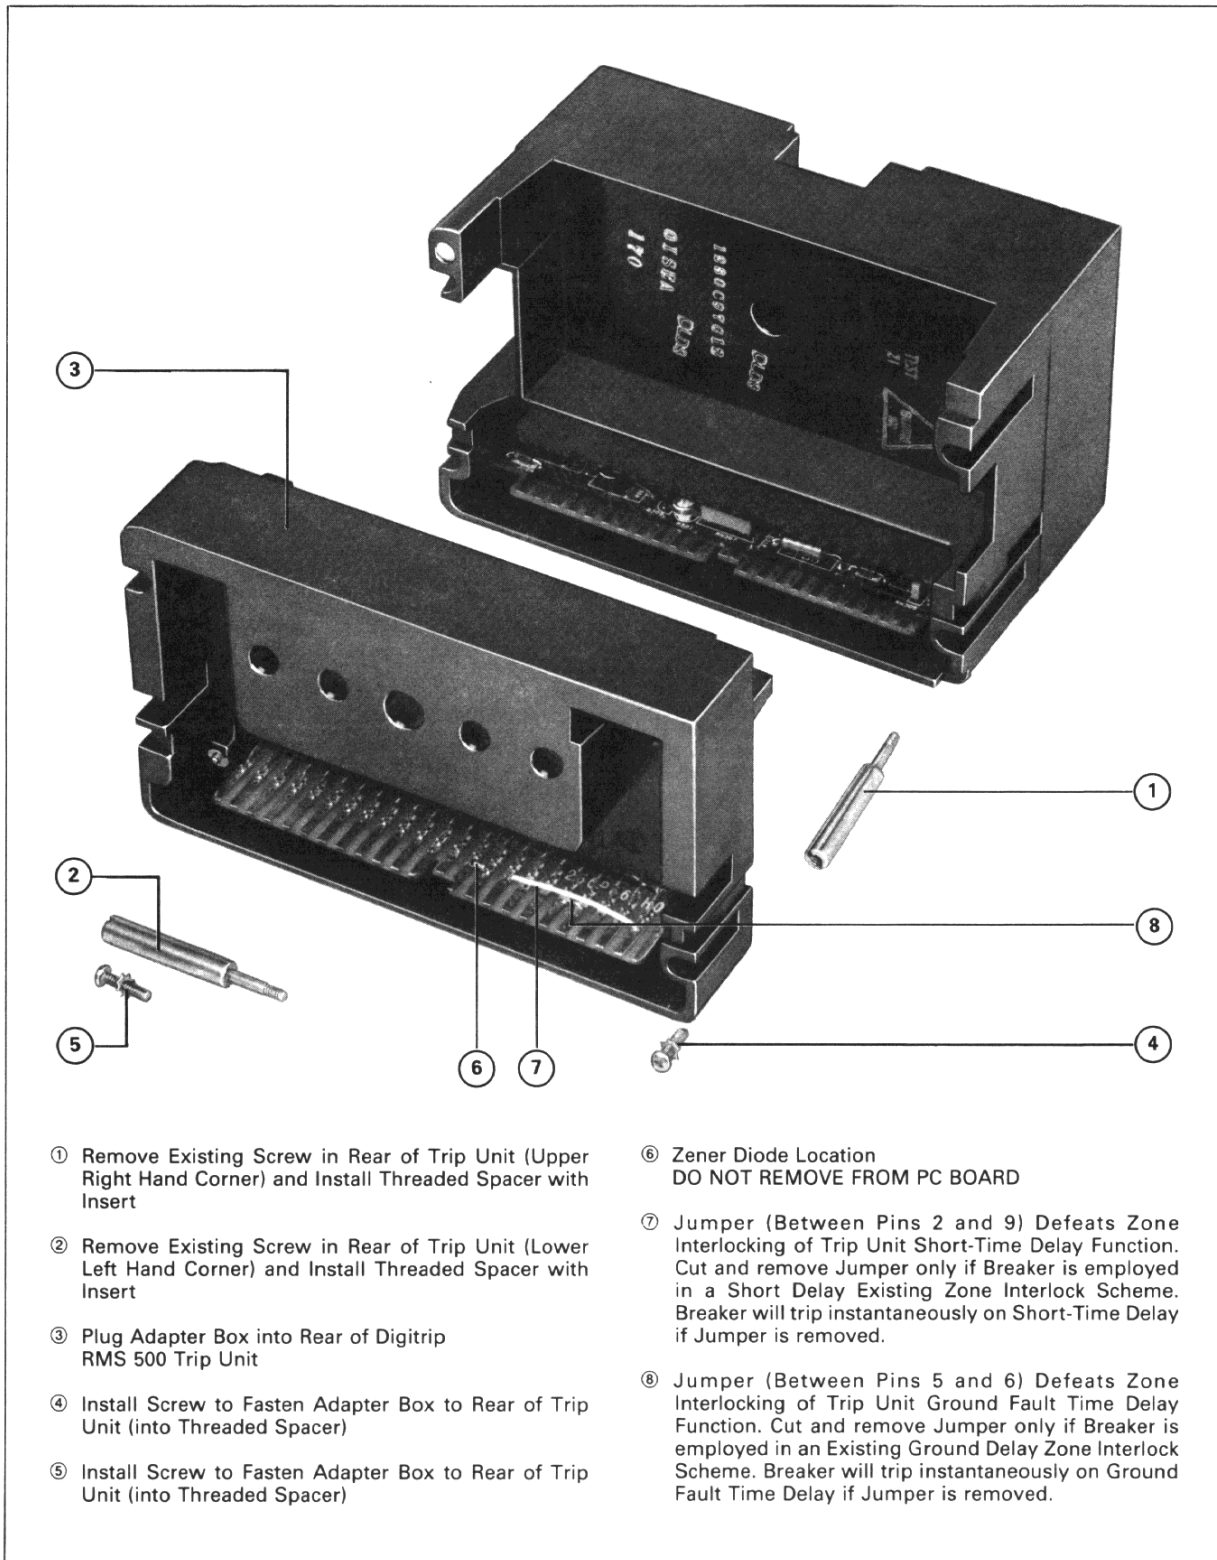
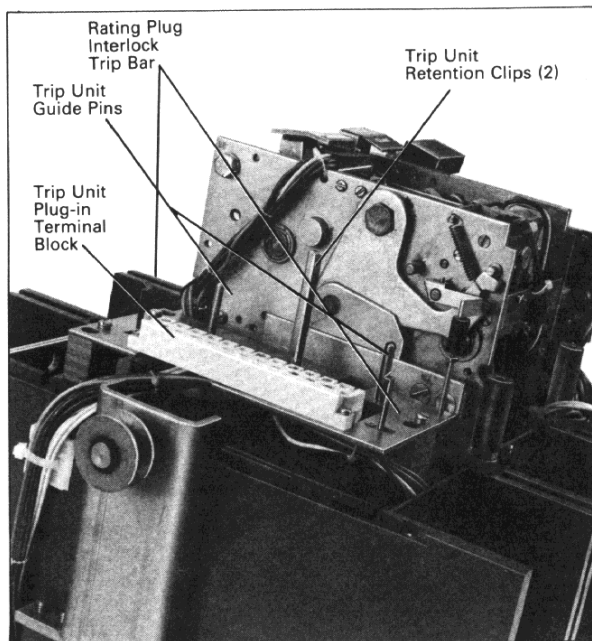

Fig. 2-2. SPB Adapter Box and Mounting Hardware (Rear View)
Fig. 2-3. SPB Breaker Ready to Receive Digitrip RMS Trip Unit Assembly
2. Refer to Fig. 2-2. Install the 2 inch long threaded spacers in the rear of the trip unit at the location of the removed screws.
5. All Digitrip RMS 500 Trip Units have Zone Interlock capability for Short-Time and Ground Fault Delay functions. This zone interlock capability is defeated by two jumpers installed on the pc card in the adapter box as shown in Fig. 2-2. In most cases, the breaker to be retrofitted will not be employed in a zone interlock scheme and the jumpers will be left intact. However, if the breaker is employed in a short-time delay or ground fault time delay function, these jumpers should be removed as required to match the existing zone interlock scheme. Fig. 2-3 shows the correct jumper to be removed (by cutting) for short-time and ground fault delay functions.
1. Fig. 2-3 shows the breaker ready to receive the new trip unit assembly. Plug the Digitrip RMS Trip Unit Assembly, held in upright position, into the SPB Breaker trip unit plug-in terminal block. The holes in the adapter box should clear the trip unit guide pins and rating plug interlock trip bar. The trip unit edge-card must seat completely and properly in the terminal block. Then engage the upper and lower spring retention clips.